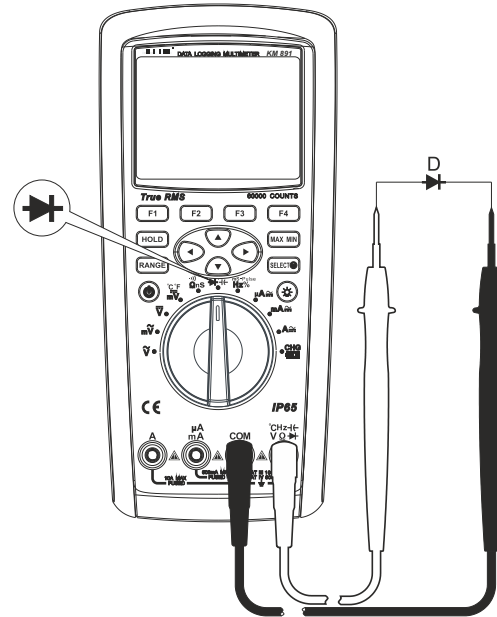

Figure 10
- 2) Set the rotary switch to the measurement $\rightarrow \leftarrow$ and the diode measuring mode \rightarrow is default. Connect the test leads to both ends of the measured diode as shown in Figure 10. Directly read the approximate forward PN junction voltage of the measured diode on the display.